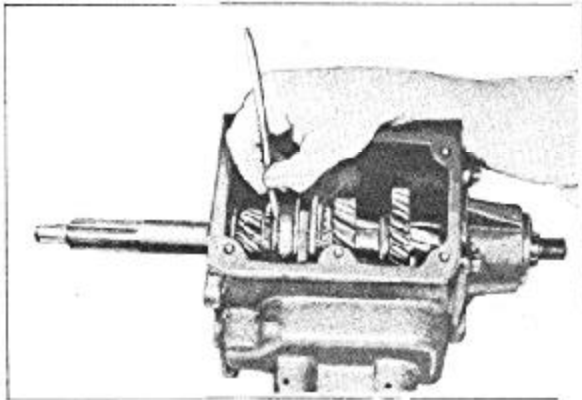

FIGURE 34
10. With a small, pointed brush, paint a fine line across the synchronizer rings, sleeve and second and high mainshaft gear to insure replacement of these parts in their proper positions, Figure 34.